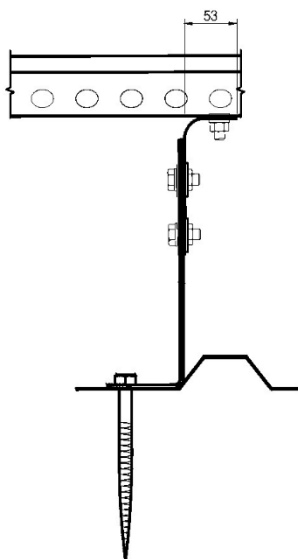

Figure 3.
- Install the PR-bracket plate by placing it onto the edge of the roof seam protrusion such that the PR-bracket plate is in a vertical position (Figure 3).
- Make sure that the RP-bracket plate parts are in the position shown in the figure (Figures 3 and 4).
- Screw the PR-bracket plate to the roof using 2 M8x100 mm screws (Figures 3 and 4).